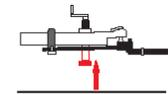

Figure 32
7. With both arms secured, lower the jack, then retract it completely. (Figure 32)